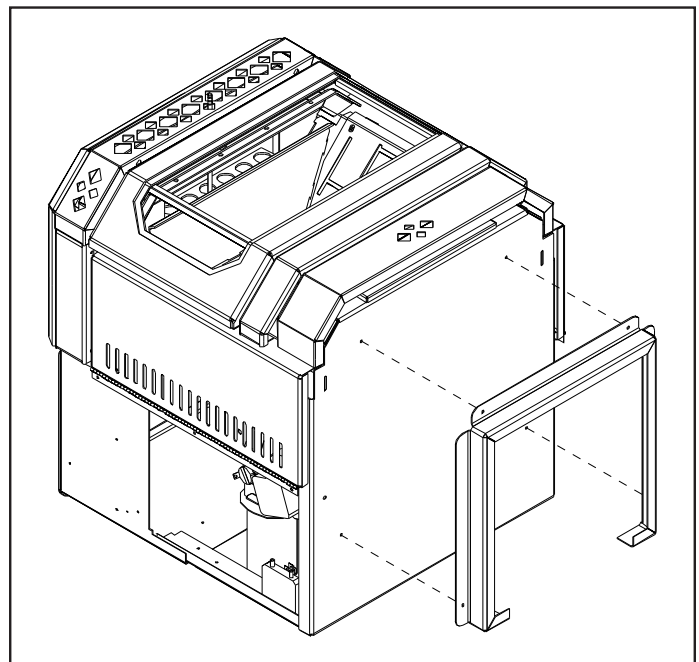

Figure 11: Installing pedestal onto unit.
4. Back the four (4)  $\frac{5}{16}$ " hex head screws in the base off three (3) to four (4) full turns.
5. Secure the pedestal to the unit by tightening the four (4)  $\frac{5}{16}$ " hex head screws around the outside of the pedestal (see Figure 11).